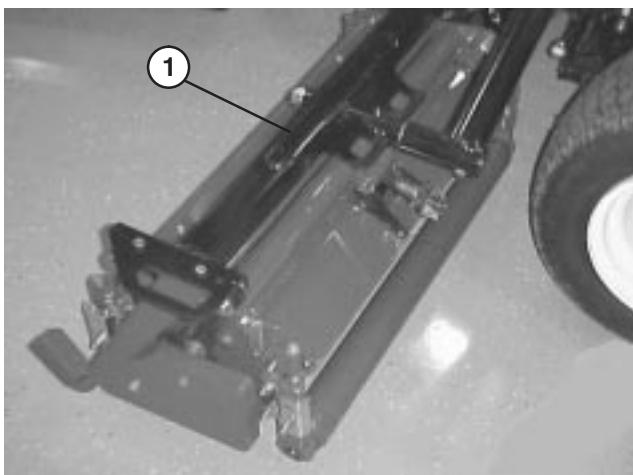
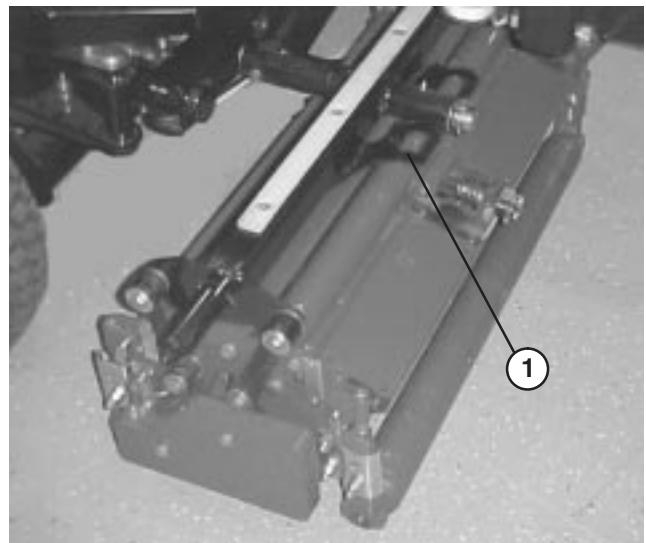
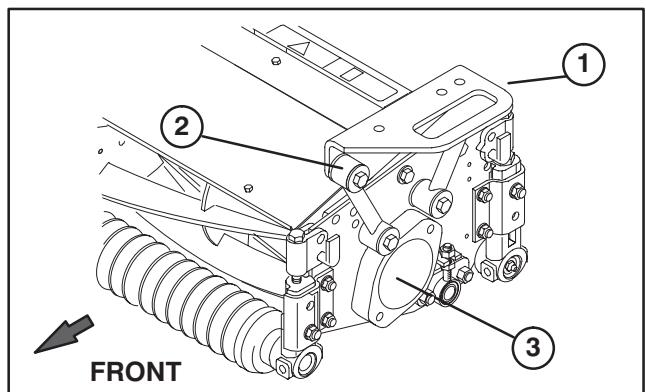

Figure 16
Figure 17
Figure 18
MOUNT CARRIER FRAMES TO CUTTING UNITS (Fig. 16 – 18)
2. Position a front carrier frame (Fig. 16) onto each front cutting unit. Align mounting holes with mounting links as shown in figure 18.
3. Position rear carrier frame (Fig. 17) onto rear cutting unit, aligning mounting holes with mounting links as shown in figure 18.
4. Secure each mounting link to carrier frame with a 3/8–16 x 2–1/4" lg capscrew, (2) flatwashers and a locknut, as shown in figure 18. Position a washer on each side of link when mounting. Torque to 31 ft-lb.
3. Remove shipping plug from bearing housings on remaining cutting units (Fig. 18).